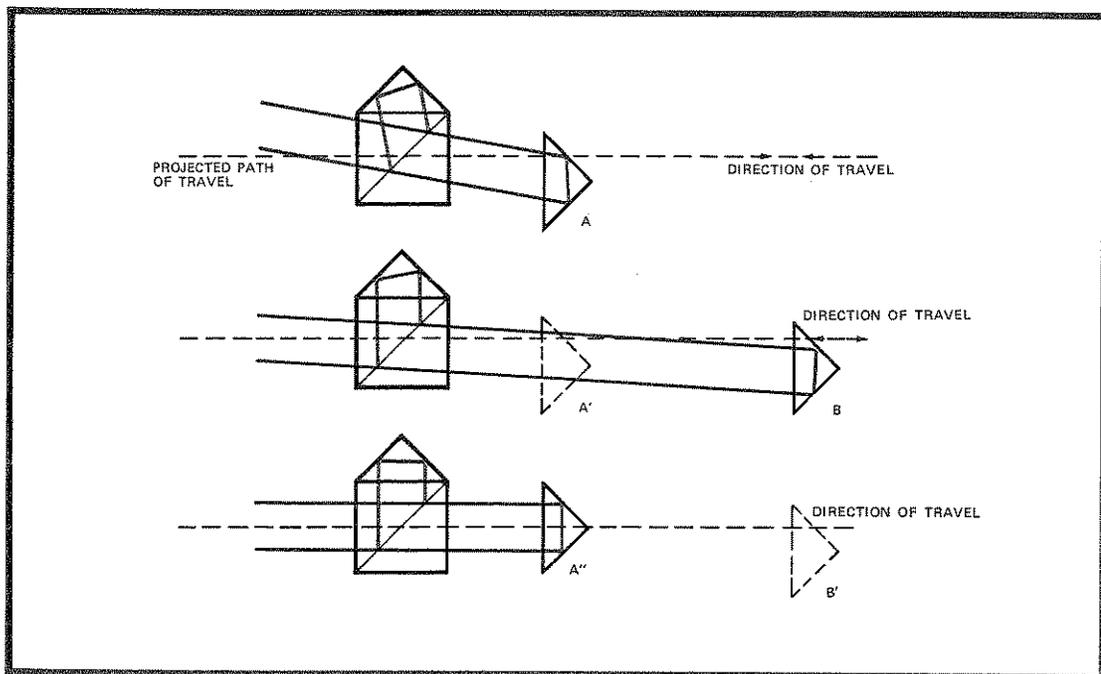

Figure 2-52. Alignment Tips
Understanding the following relationships between the movement of the retroreflector and the stationary interferometer will make it easier to decide how to align these two components in respect to each other. If the 10702A Linear Interferometer is the moving component, see *Figure 2-11* for an explanation of the Option 001 windows. If the 10705A Single Beam Interferometer is used it must be the stationary component. *Figure 2-52* shows a sequential relationship with the misalignment exaggerated for clarity. To initially align the components use the following sequence:
- With the retroreflector as close as possible to the interferometer (position A of *Figure 2-52*), adjust any component (laser head, interferometer, or retroreflector) to get the small spots to overlap at the receiver (a receiver alignment target makes this adjustment easier).